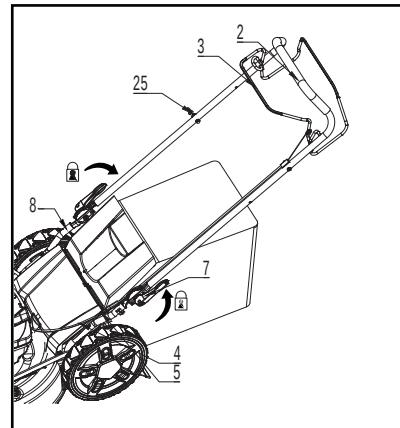

Fig. 2
4. Secure the upper handle bar (2) with the lower handle bars (8) by folding up the clamp levers (7) towards the handle bars (2, 8). If the clamp lever (7) cannot be folded, loosen it and fold again. If it is too loose, firstly hold the locking nut (7a) steady with a suitable spanner (size: 13mm), then tighten it by turning the clamp lever (7) clockwise (Fig. 2).
5. Make sure that the self-propelling wire (5) and the brake wire (4) run on the upper side of the handle bars (2, 8).
6. Make sure that the pre-assembled hook for recoil start handle (31) rest on your right-hand side (when viewed from operator's position).